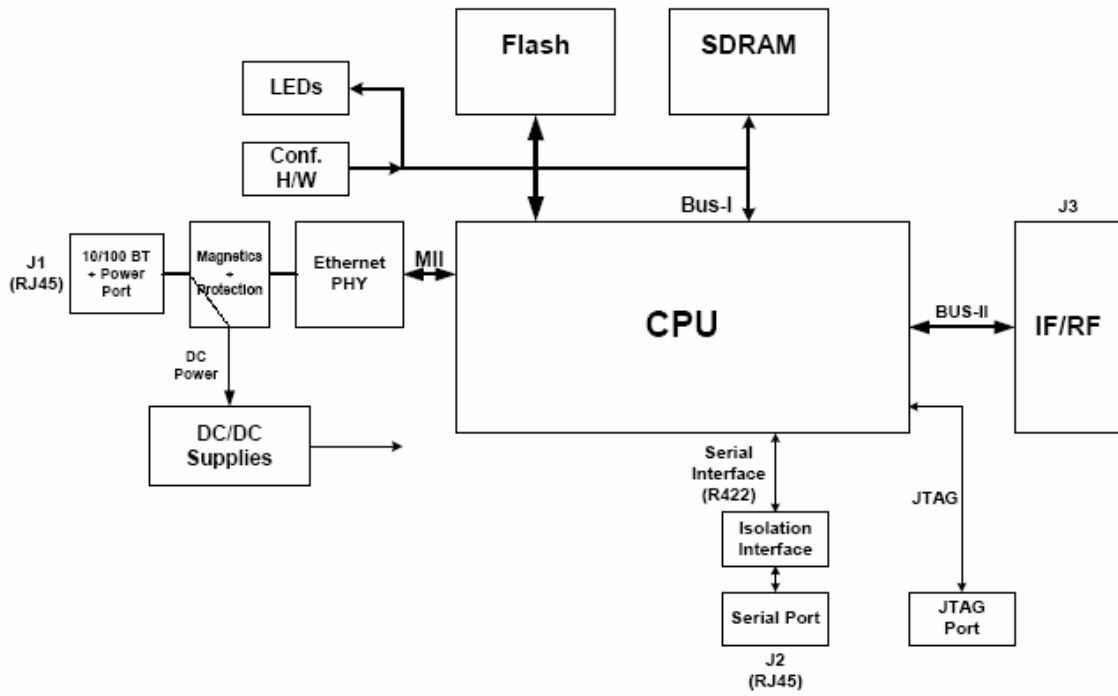

Figure 1-4. ODU Block Diagram
- **Outdoor Unit (ODU):** An enclosed aluminum frame with a front sealed plastic cover, containing an integrated transceiver with an antenna, RF module, modem and standard interfaces. The ODU stores all the configuration parameters of the system. Figure 1-4 shows the ODU block diagram.